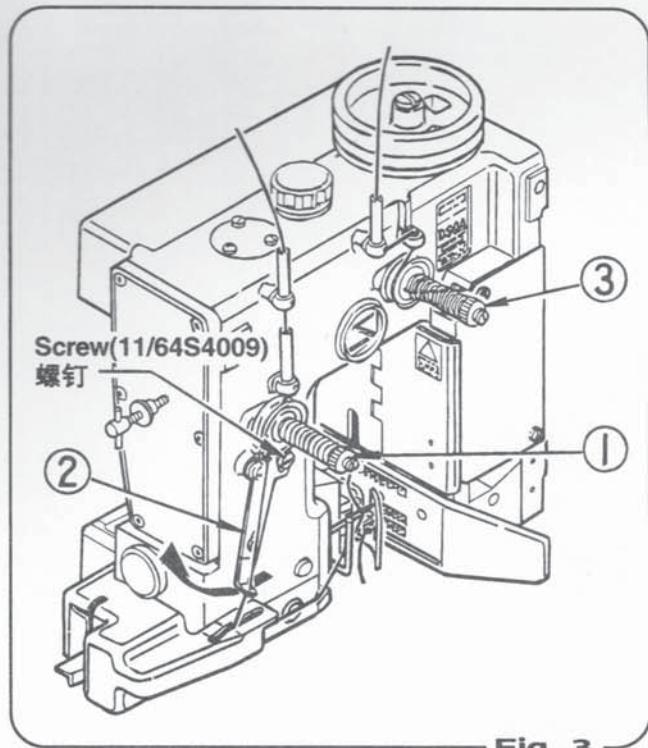

Fig. 3
### 1. Thread Tension (Figure 3)
Proper thread tension may slightly vary with the type of bag and thread. The norm is given below. Thread tension regulators are mounted so that the tension is uniform for stitch length. To adjust the tightness of seam, adjust ①, ③ in Figure 3.
### 1. 穿线张紧度调整(图3参照)
线调节是在缝口袋时最重要的项目。请注意。线调节不对可能成为断线、跳针、破袋等的故障原因。由于袋料和缝线种类，线调节(图3-①、③)有些不一样，但原则上按下记指示进行调整。